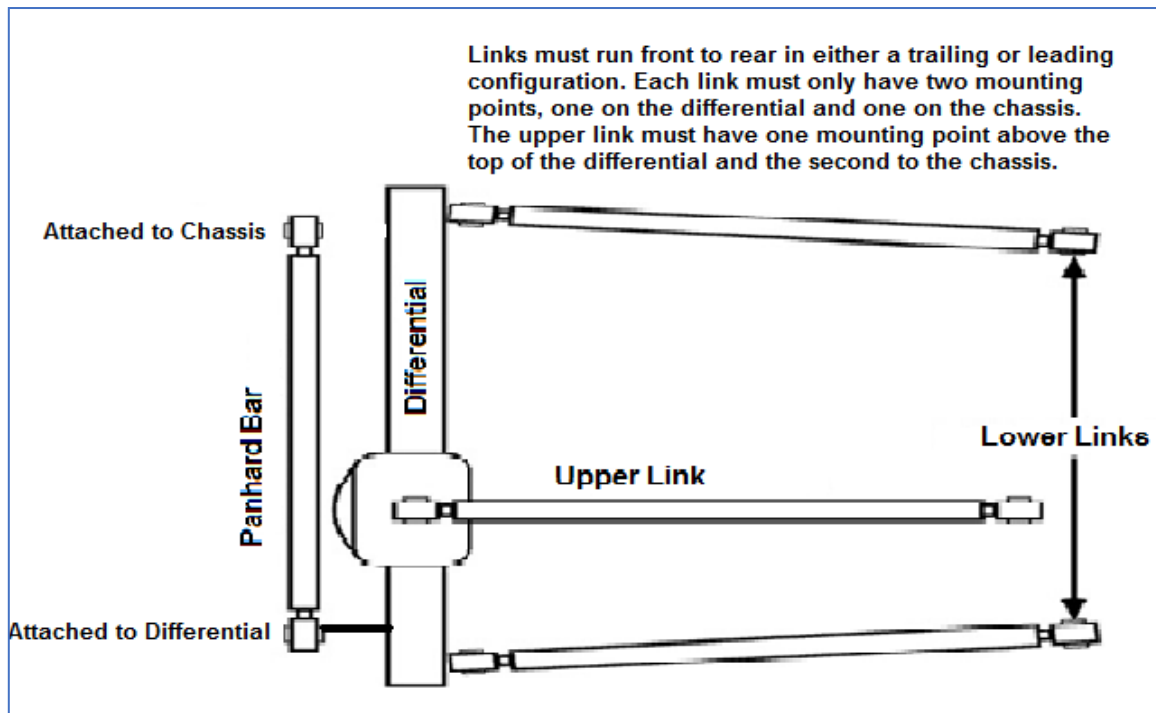

Figure 17
25.4 The only rear suspension allowed is the three-link design which consists of two lower control-arms and one upper pull bar. These control the up and down movement of rear end (*Figure 17*). One Panhard bar or J-Bar is allowed for the side to side location of the rear end. No sliding Panhard bar allowed.